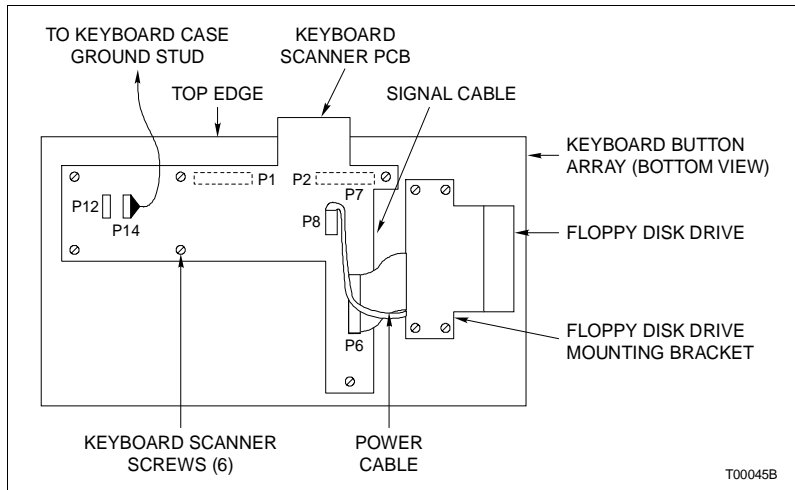

Figure PR55-2. Keyboard Scanner PCB Replacement
- 4. Remove the ground wire from P14 on the keyboard scanner PCB (Fig. PR55-2).